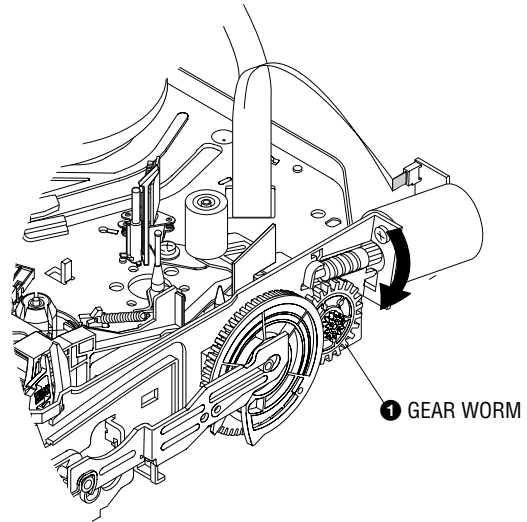

Fig. 2-42
- 3) Rotate Gear Worm ❶ clockwise using screw driver again up to the state of eject mode and then pick out the tape.(Refer to Fig.2-42)